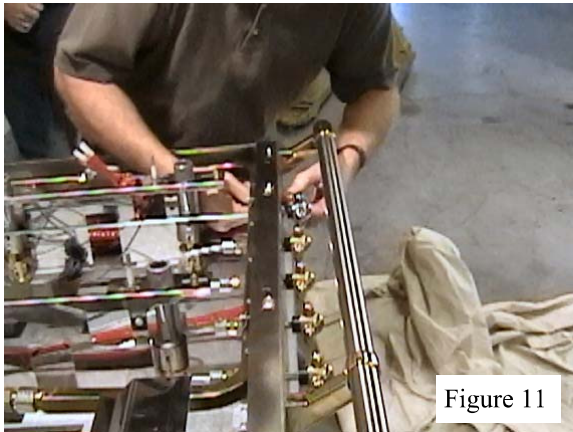
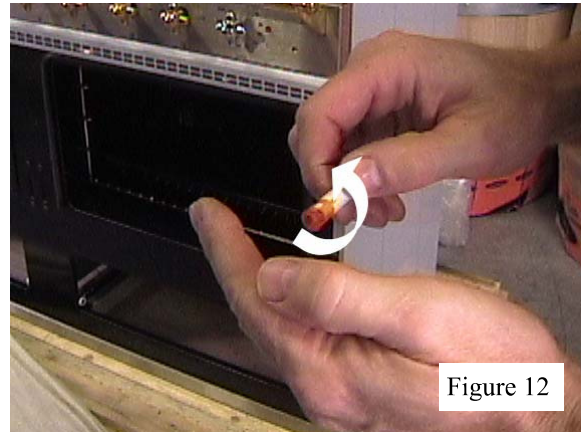

Figure 11
Figure 12
8. Remove each lamp by twisting it (clockwise when viewing from the back of the control panel [Figure 12]) and pushing it out through the front of the panel. (Figure 11)